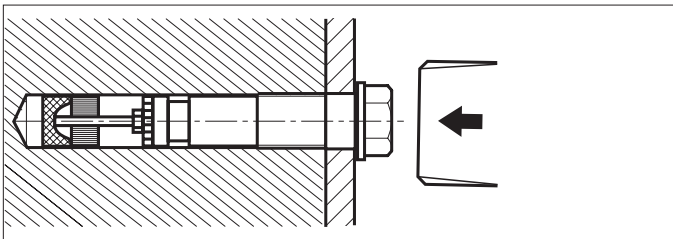

Fig. 2
- ⇒ Drive the anchor bolts into the main holes with light hammer blows until they are flush with the plate (Fig. 2).